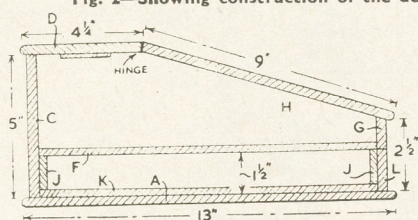

Fig. 4—End elevation
(C) is glued between the sides and measures 16 $\frac{3}{4}$ ins. by 5ins. by $\frac{3}{8}$ in. Piece (D) will be 18ins. by 4 $\frac{1}{2}$ ins. by $\frac{3}{8}$ in. The back and side edges will be rounded and the front edge chamfered to take the lid as shown in Fig. 4. A piece about 8ins. by 1in. can be cut from the centre to form a depression for the pencils and pens.
Two side rails to take the floor of the well are next glued to the sides (B), in the position shown in Fig. 2. These rails (E) measure 11 $\frac{3}{4}$ ins. by 1 $\frac{1}{2}$ ins. by $\frac{1}{4}$ in. The front rail (G) measures 16 $\frac{3}{4}$ ins. by 1 $\frac{1}{2}$ ins. by $\frac{3}{8}$ in. and must be chamfered as shown in Fig. 4.
The position of the hinge is shown in Fig. 4, and although outside flap hinges are easier to fix, it will look better if butt hinges are used. These should be recessed slightly into piece (D) and the lid to allow for the thickness of the hinge.